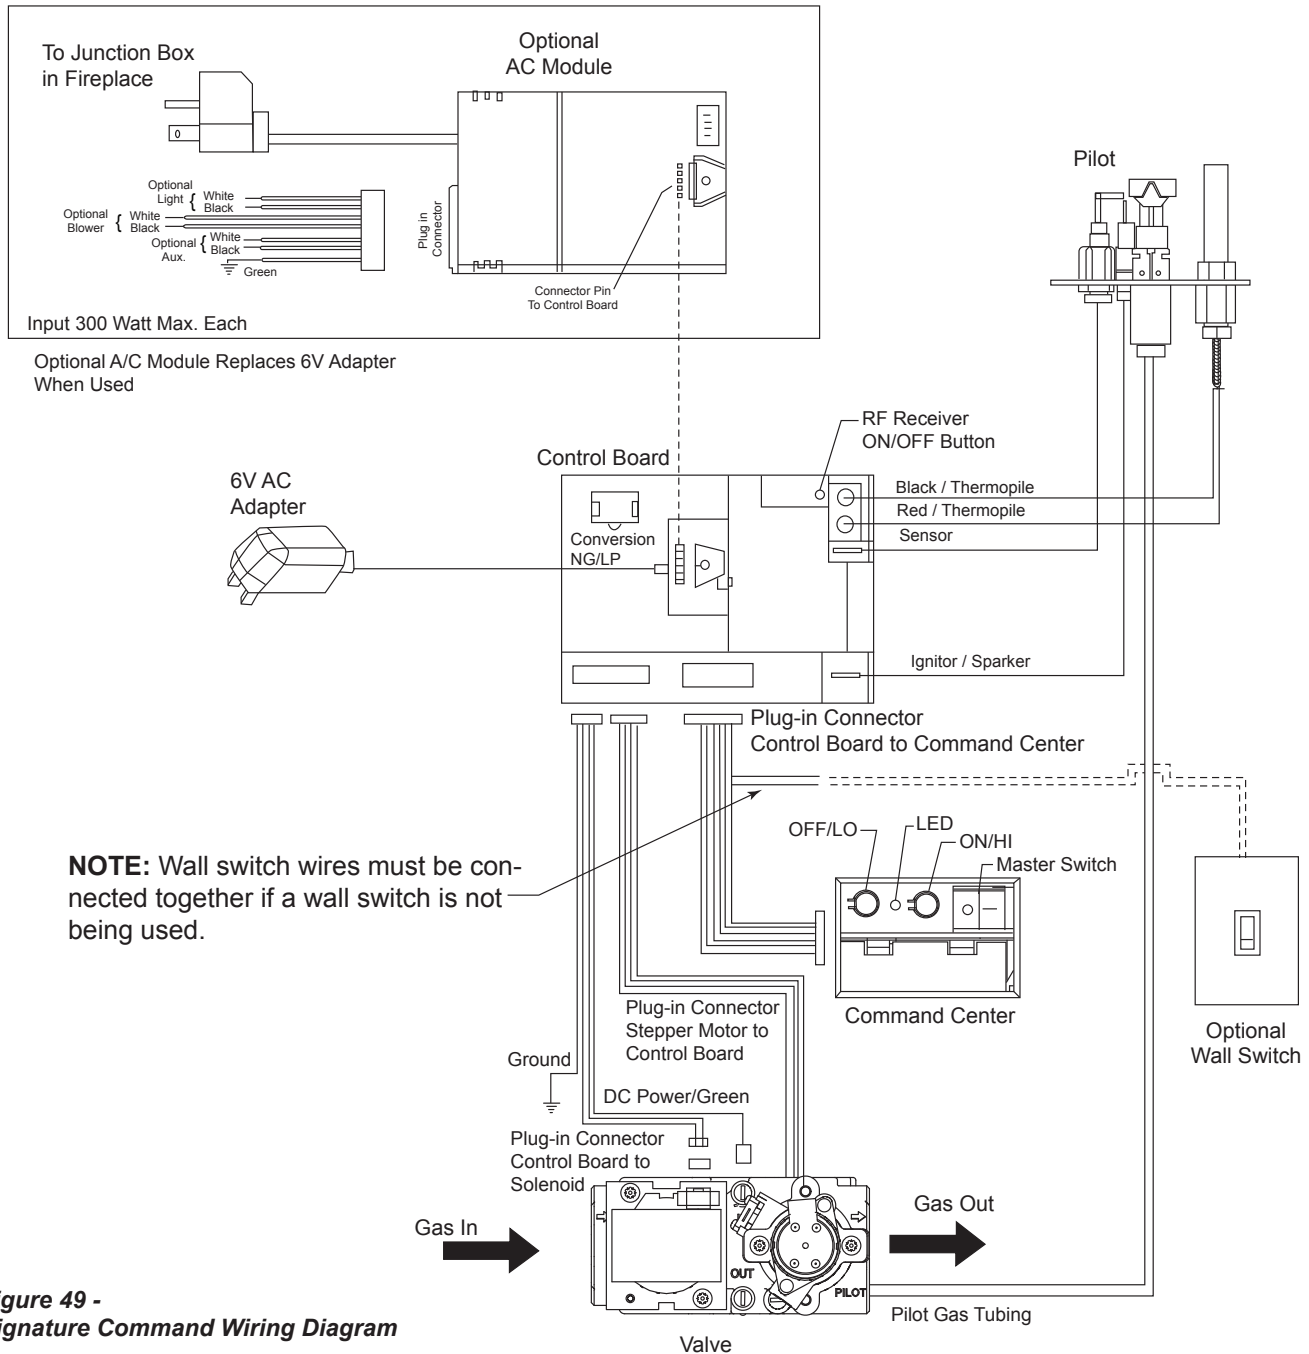

Figure 49 -
The wall switch wire connection is located off the 2 ft. wire harness from the control box to the command center. *Figure 49*. The connection is labeled "Wall Switch". Unplug the male and female connectors and connect the two (2) low voltage wires provided. Run wire to desired location on wall. Up to 50 ft. of 18 ga. wire may be used if necessary. Attach wires to wall switch. Mount the wall switch in to junction box and screw on cover.